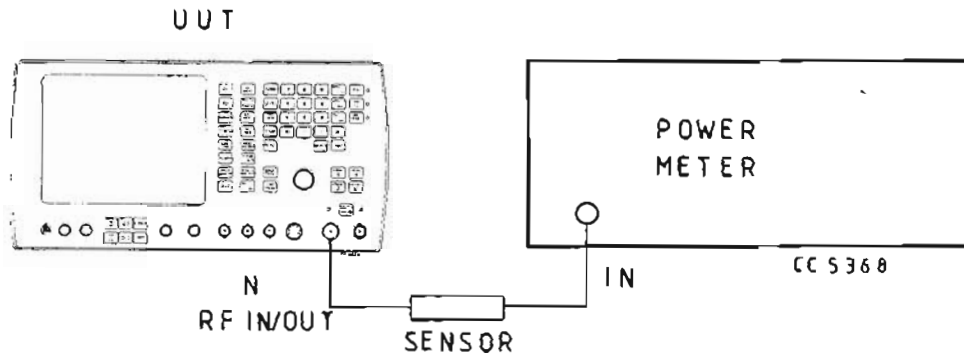

Fig. 11 Test equipment connections for adjusting R32 on AB6
- (1) Connect the equipment shown in Fig. 11 via a high-sensitivity head (-20 to -65 dBm).